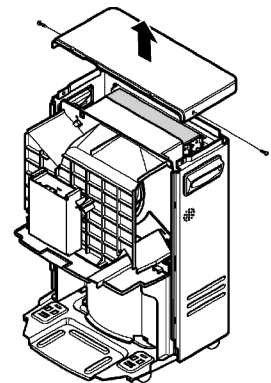

Figure 12
4. Remove the top cover. (See Figure 12)